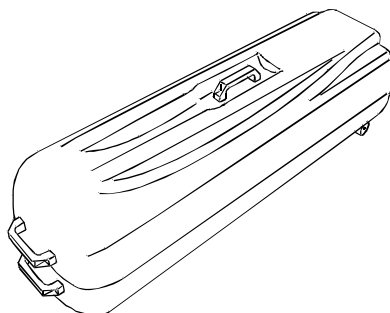
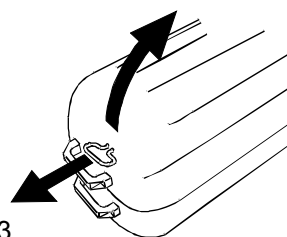

Fig 2
Fig 3
2. Take a firm grip of the end handle and using the wheels as a pivot lower the Highlite onto its underside on the floor (Fig 2). Pull the keyring situated above the end handle and release the box catch (Fig 3).